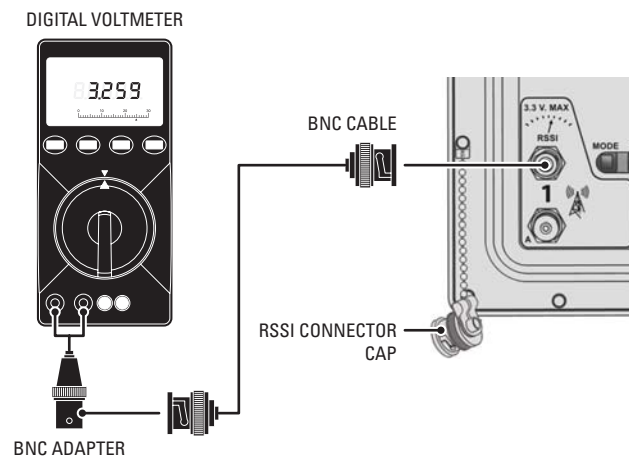

Figure 23. Connecting a DVM to the EW5301T
5. Uncap the RSSI connector on the EW5301T (refer to Figure 23).